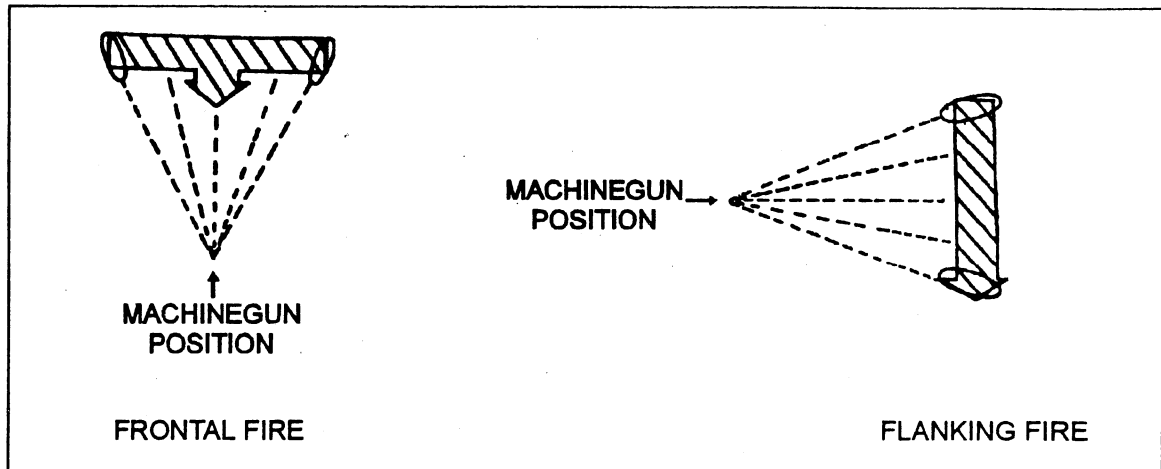

Fig 3-6. Frontal and flanking fire.
- (1) The direction of enemy movement
- (2) Coverage of the enemy's formation
- b. Frontal fire is directed into the face of the enemy (see fig 3-6). The long axis of the beaten zone is at a right angle to the long axis of the target.
- c. Flanking fire is delivered against the flank of a target (see fig 3-6).